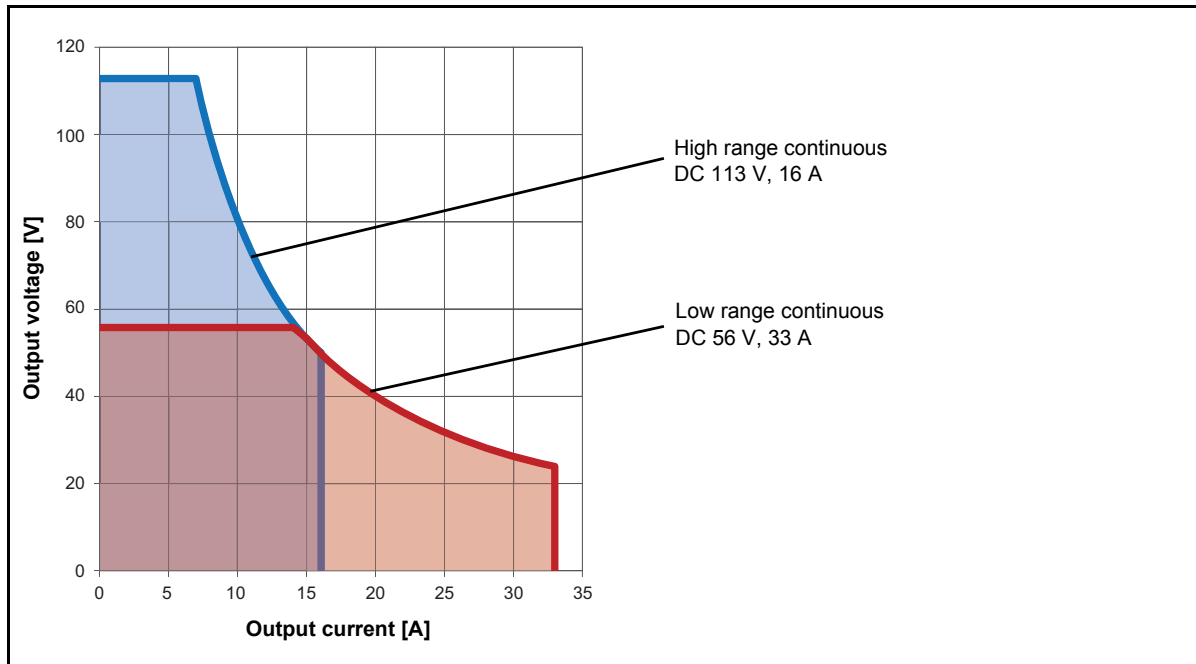

Figura 1-3: Permitted operating range 3 x DC 113 V 16 A
1. See Figura 1-3: "Permitted operating range 3 x DC 113 V 16 A" en la página 7